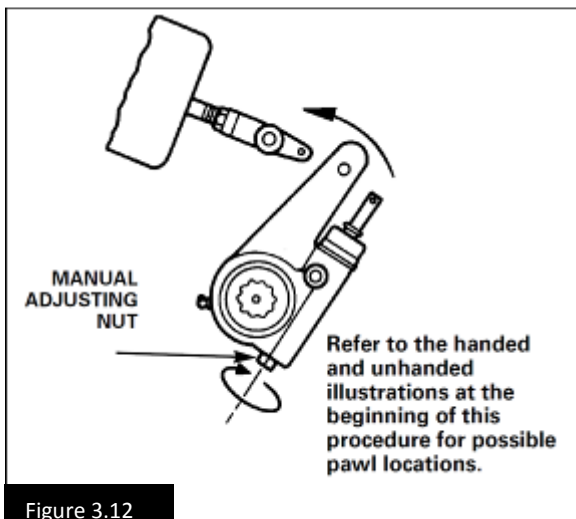

Figure 3.12
- Remove a conventional Pin or pry a pull Pin at least 1/32-inch (0.794 mm) to disengage the teeth. Rotate the manual adjusting nut **CLOCKWISE** to move the slack adjuster away from the clevis. Figure 3.12.